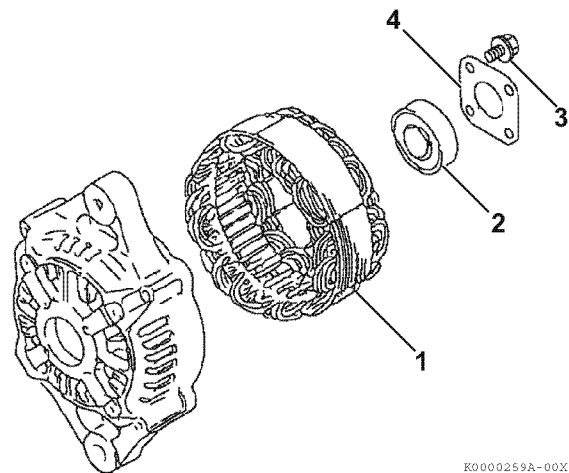

Figure 11-13
2. If removed, lubricate the outside diameter of a new front frame housing bearing. Press the bearing (**Figure 11-13, (2)**) into the front frame housing. Install the plate (**Figure 11-13, (4)**) to the front housing. Tighten the four bolts (**Figure 11-13, (3)**).
3. Position the stator assembly (**Figure 11-13, (1)**) on the front frame housing studs.